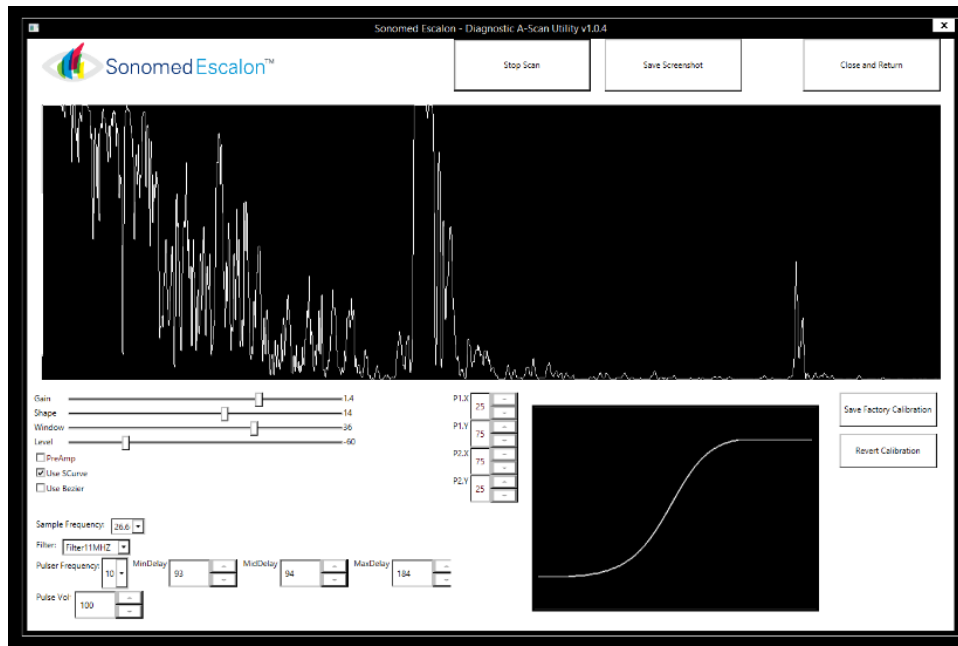

Figure 36: Calibration Screen Window
- ⑧ **Close and Return:** Upon completing examination and saving a record of the test, select the 'Close and Return' button to return to the VuMax HD Patient Database screen.
- ⑨ **Calibration:** Clicking on the Sonomed Escalon logo while having the control key pressed, it will pop up the S curve calibration as in Figure 36.